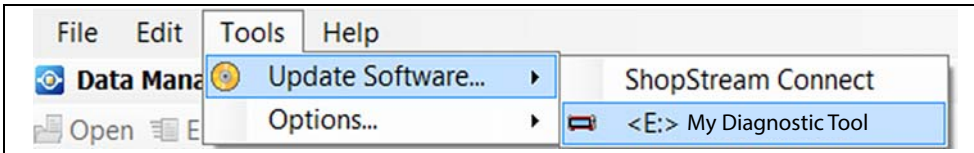

Figure 18-12
1. Select **Tools > Update Software >** (diagnostic tool type - e.g. ETHOS Edge, MODIS Edge, SOLUS Edge, etc.) from the Menu bar (*Figure 18-12*).